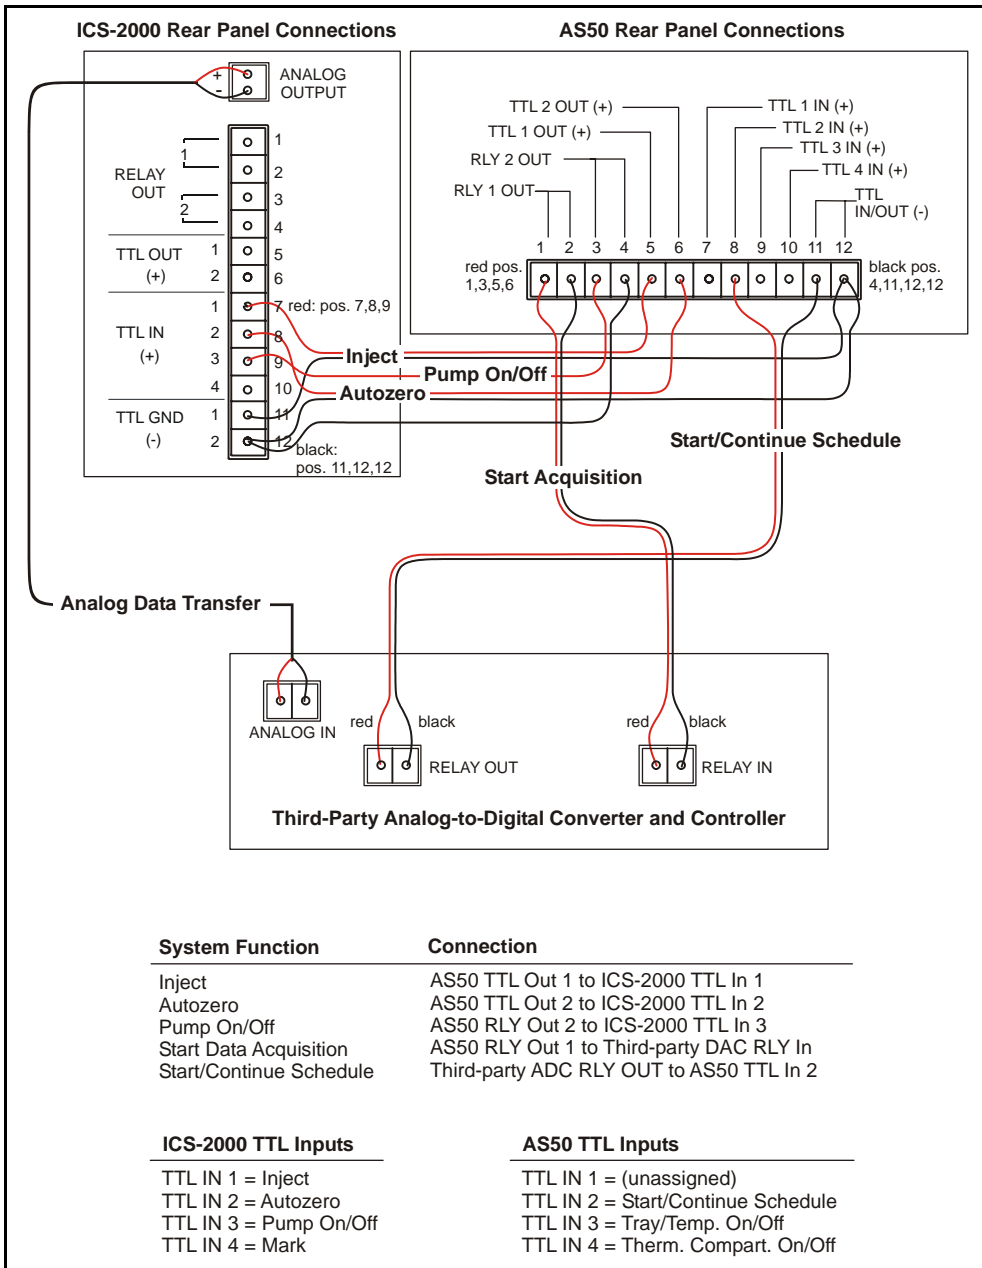

Figure D-7. Example Connections for Stand-Alone Operation
2. Attach the wires to the connector plug positions indicated in Figure D-7.
2. Connect the analog input connector on the third-party controller to the **ANALOG OUTPUT** connector on the ICS-2000 rear panel (see Figure D-7).
Figure D-11 is an example of AS or AS50 (USB) method timed events that can be used with the TTL/Relay connections shown in Figure D-7.